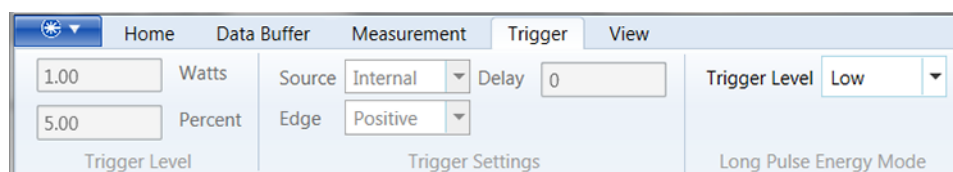

Figure 8-22. LPEM – Select Trigger Level
3. On the on the Trigger tab, go to the Long Pulse Energy Mode section. From the drop-down menu, select the appropriate Trigger level. Figure 8-22 shows an example using the 'Low' setting: